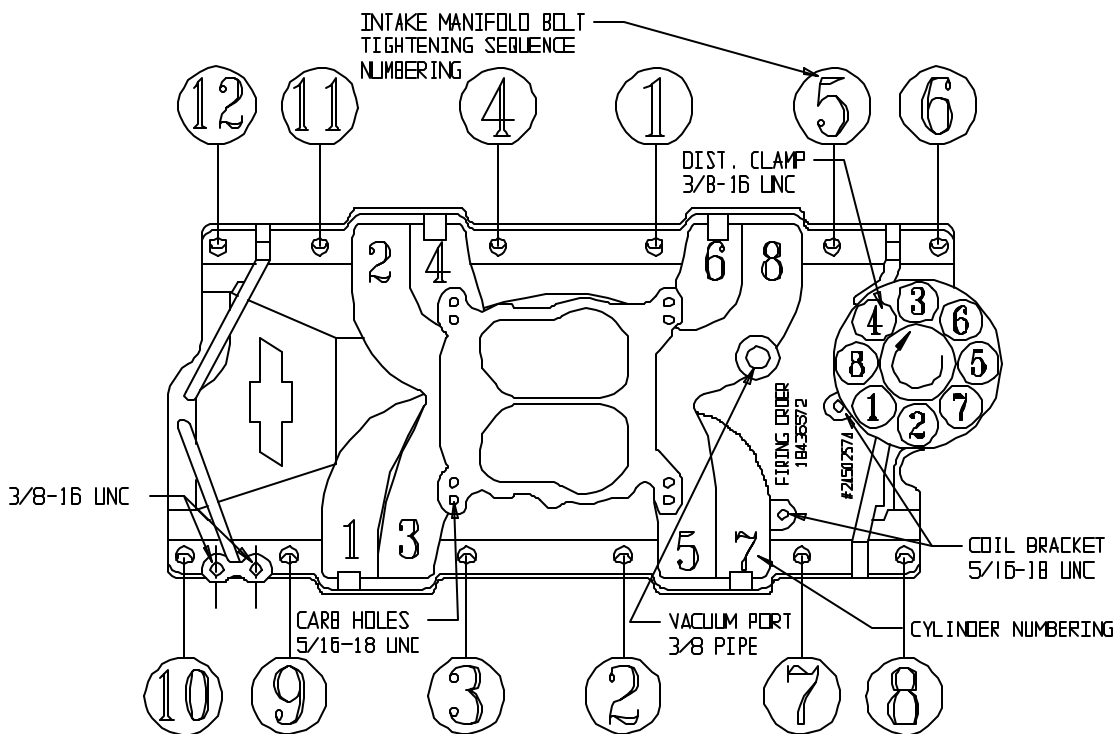

FIG 1 - Intake Manifold Bolt Tightening Sequence,
- 4) Set the manifold down onto the gaskets, taking care to not slide across the silicone. Using Figure 1 as a guide, first torque all of the manifold bolts to 15 ft-lbs in the sequence shown; then repeat the sequence tightening to 25 ft-lbs.